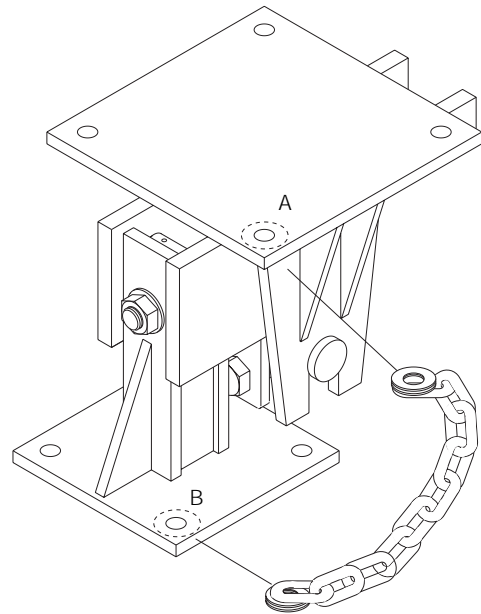

Figure 10
2. Place two stacked washers and the upper end link underneath the girder chair base plate, below bolt hole A (see Figure 10). Be sure the washers are positioned between the girder chair base plate and the end link.
4. Place the lower end link and two stacked washers over the fulcrum stand base plate, above bolt hole B (see Figure 10). Be sure the washers are positioned between the end link and the fulcrum stand base plate.